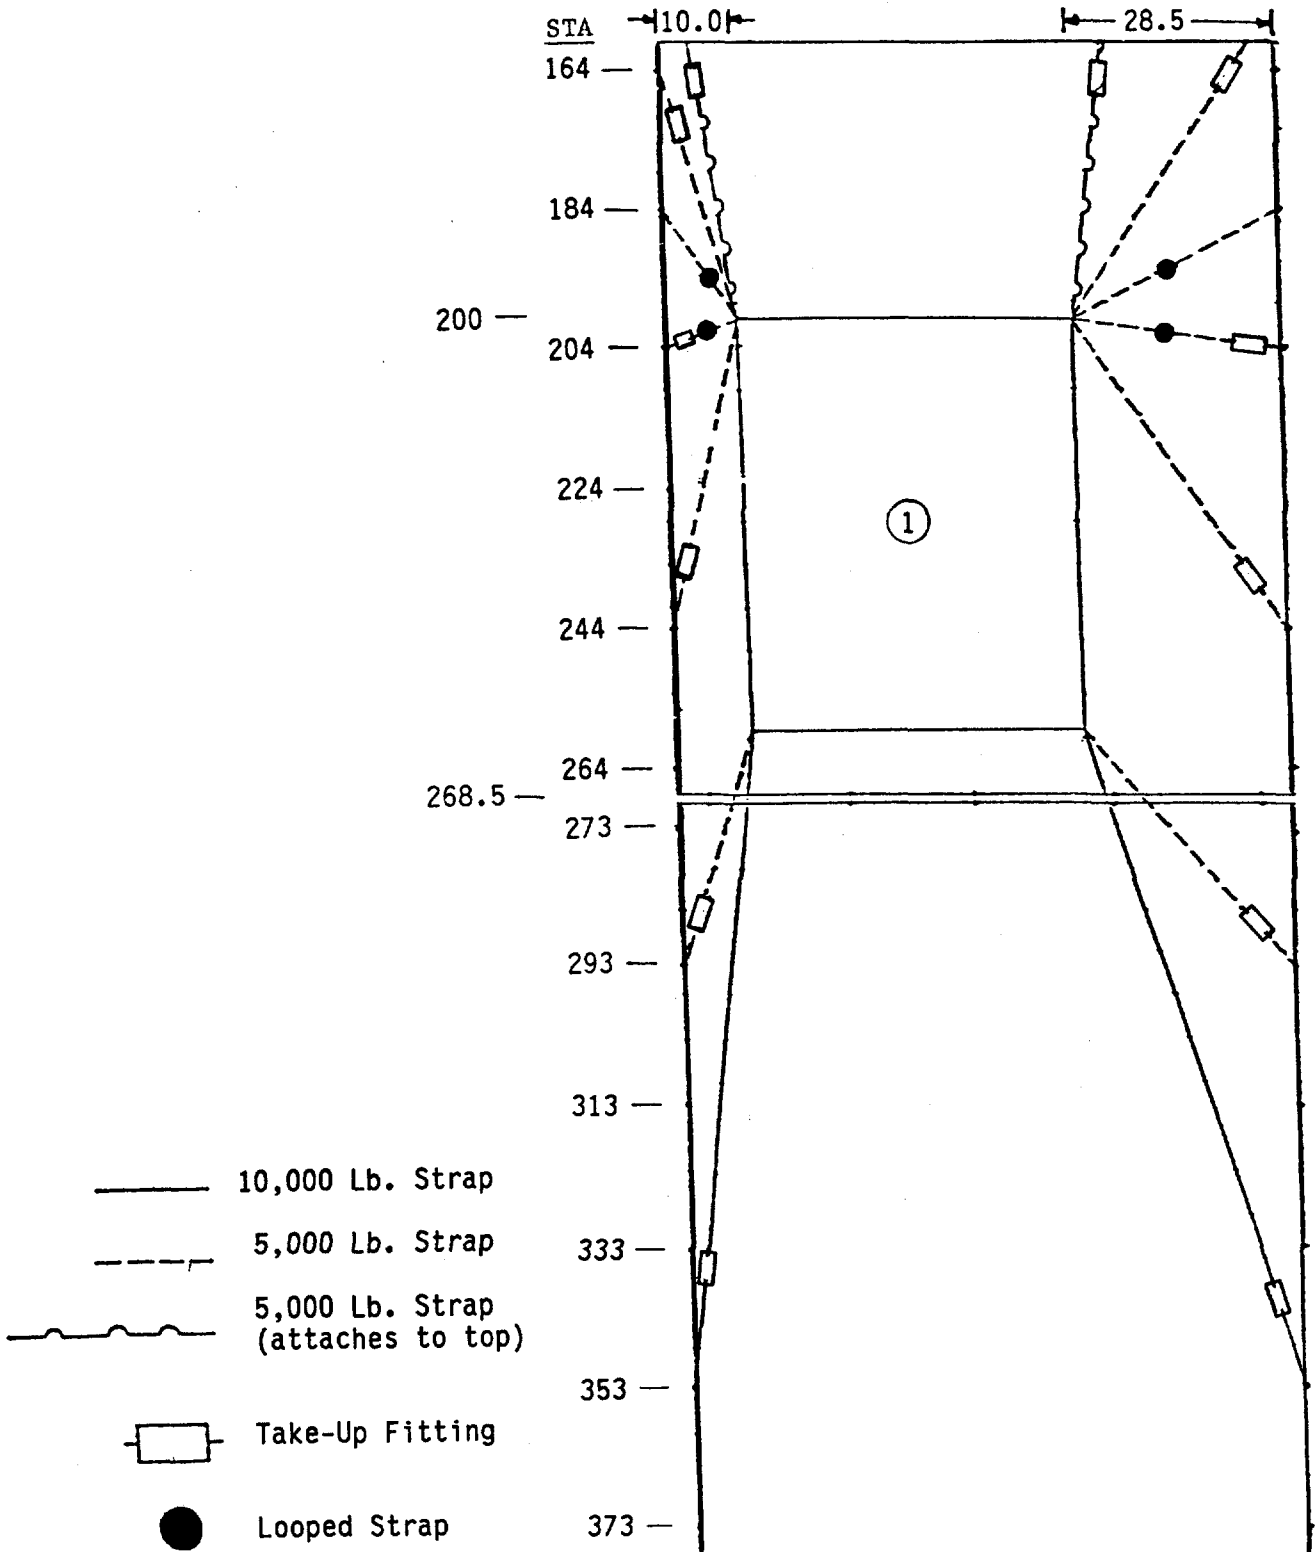

Figure 2-13. One Tank of Four with Pallet
- One tank of four w/pallet, Fig 2-13
d. Place plywood shoring between pallet and tank skid, and position edge of right-hand skid 28.5 inches to the left of pallet, Figure 2-13. Front top leading edge of tank will be lined up with station 200.